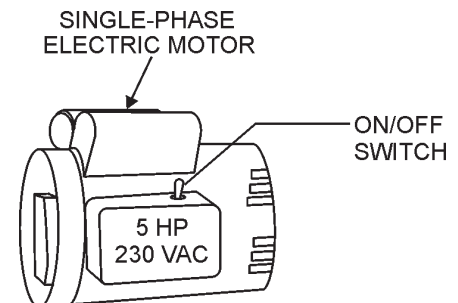

Figure 12. Main ON/OFF Switch
- Set the electric motor's ON/OFF switch (Figure 12) to the **ON** position.